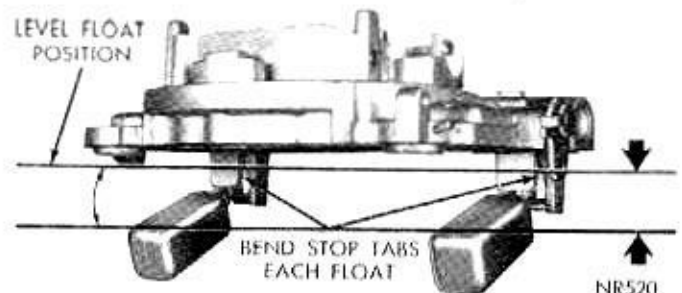

Fig. 10—Checking Float Drop
(1) With air horn inverted (upside down) place air horn in upright position and measure the distance floats move from inverted to upright position. This measurement should be 1/2 inch. (Fig. 10). Air horn gasket installed. If an adjustment is necessary, bend stop tabs on float levers until correct drop setting has been obtained. Bend tab toward needle seat to lessen drop, or away from seat to increase drop.
(2) After floats have been checked and adjusted, continue to assemble carburetor as follows:
(3) Place accelerator pump plunger lower spring in pump cylinder, then lower air horn carefully down on main body. Care must be taken to center small brass main bleed tubes so that they will pass through holes in air horn without being damaged. Be sure